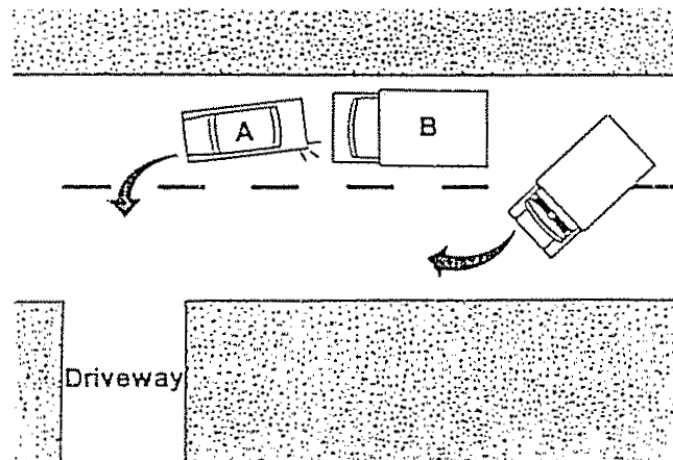

Figure 5-4
Never pass a stopped car (or line of cars) without first determining **why** it is stopped. In Figure 5-4, the EV did not take the time to determine why the truck (B) was stopped. Had the EV driver done so, he/she never would have attempted to pass. If the operator were very familiar with the area, he/she might have known why the truck was stopped.